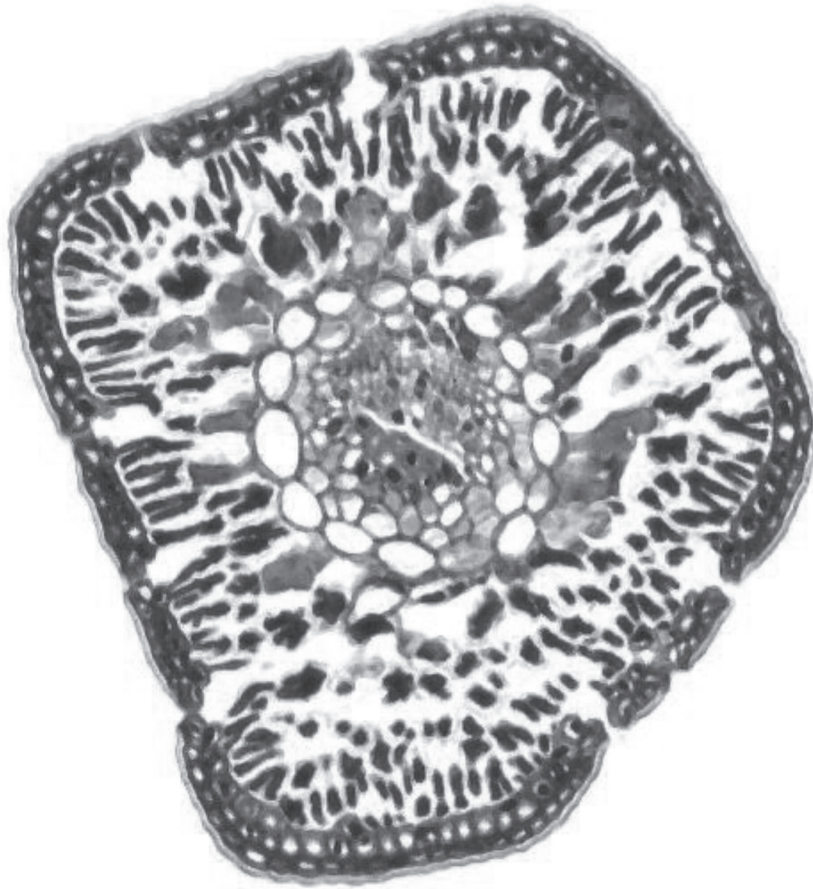
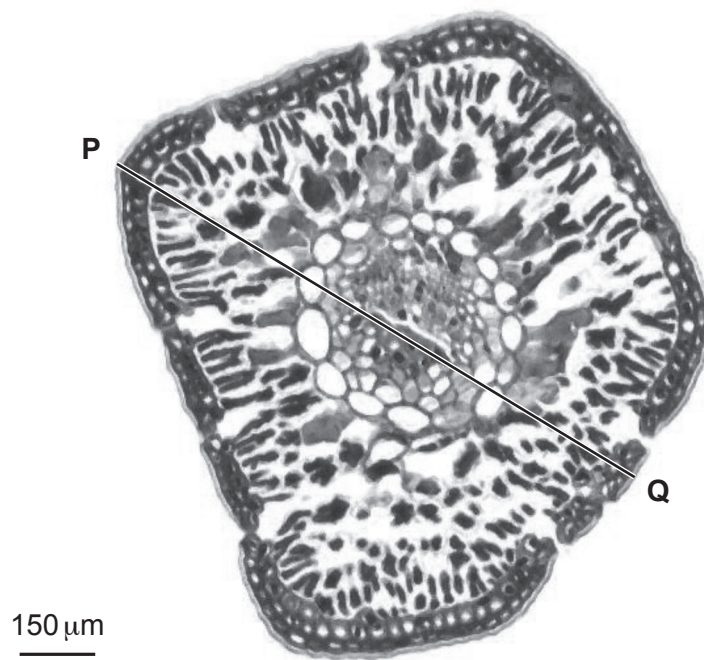

Fig. 2.1
Fig. 2.2
- (b) Fig. 2.1 is a photomicrograph of a stained transverse section through a different plant and a different organ.
- (i) Identify **three** observable **differences**, other than colour, between the section on **L1** and the section in Fig. 2.1.
- (ii) Describe **one** observable **similarity** between the vascular bundle on **L1** and the vascular bundle in Fig. 2.1, other than that they both contain xylem and phloem.
(c) Fig. 2.2 is the same photomicrograph as that shown in Fig. 2.1 with the line **P–Q** added.